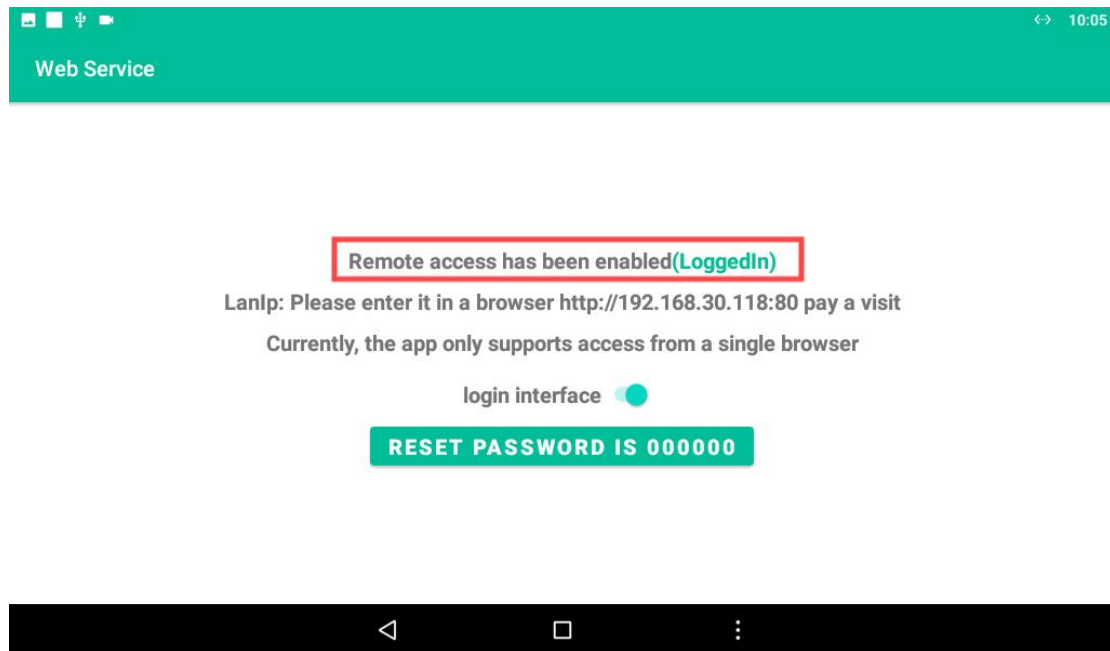

Figure 2-5
3. After logging in, the PC side will jump to the "Web Control" page, as shown in Figure 2-4. The instrument network service interface will show that you are logged in, as shown in Figure 2-5.